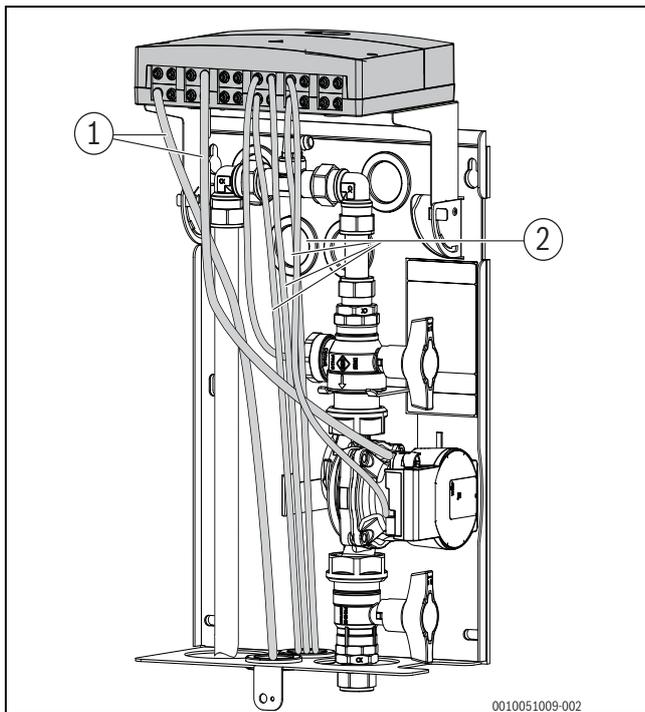

Fig. 26 Route cables through the bottom panel (thermal insulation not shown, hydraulic pipework according to option 2)
- ▶ Route the electrical power cables through the sealing grommets in the bottom panel of the enclosure (→ Fig. 26).